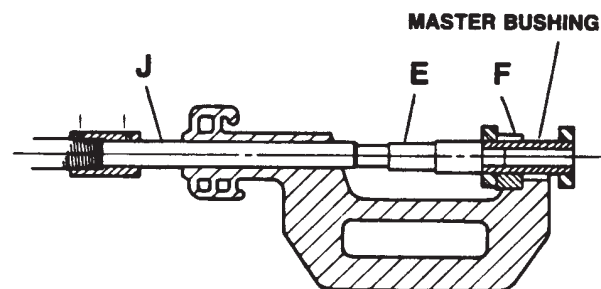

FIGURE 3
NOTE: Refer to the tooling charts to find the tooling needed for your specific application. Refer to Figures 3 and 4 when assembling the tool components indicated by the tooling chart.
2. Using the same rear forcing pin (J) that was used for the master pin removal, install the bushing adapter (F) in the end of the "C" frame as shown in Figure 3. Secure with the thumbscrew.
3. Position the track so the master bushing can be correctly placed in the bushing adapter (F) as shown in Figure 3. Insert the bushing pusher (E) into the bore of the master bushing.
- IMPORTANT: Each end of the bushing pusher (E) has a different diameter. The end of the bushing pusher (E) that provides the closest fit is the correct end to be inserted into the bore of the master bushing.**
4. Turn the cylinder adjusting screw crank until the forcing pin is against the bushing pusher (E). Check the tooling and bushing again to ensure correct alignment.